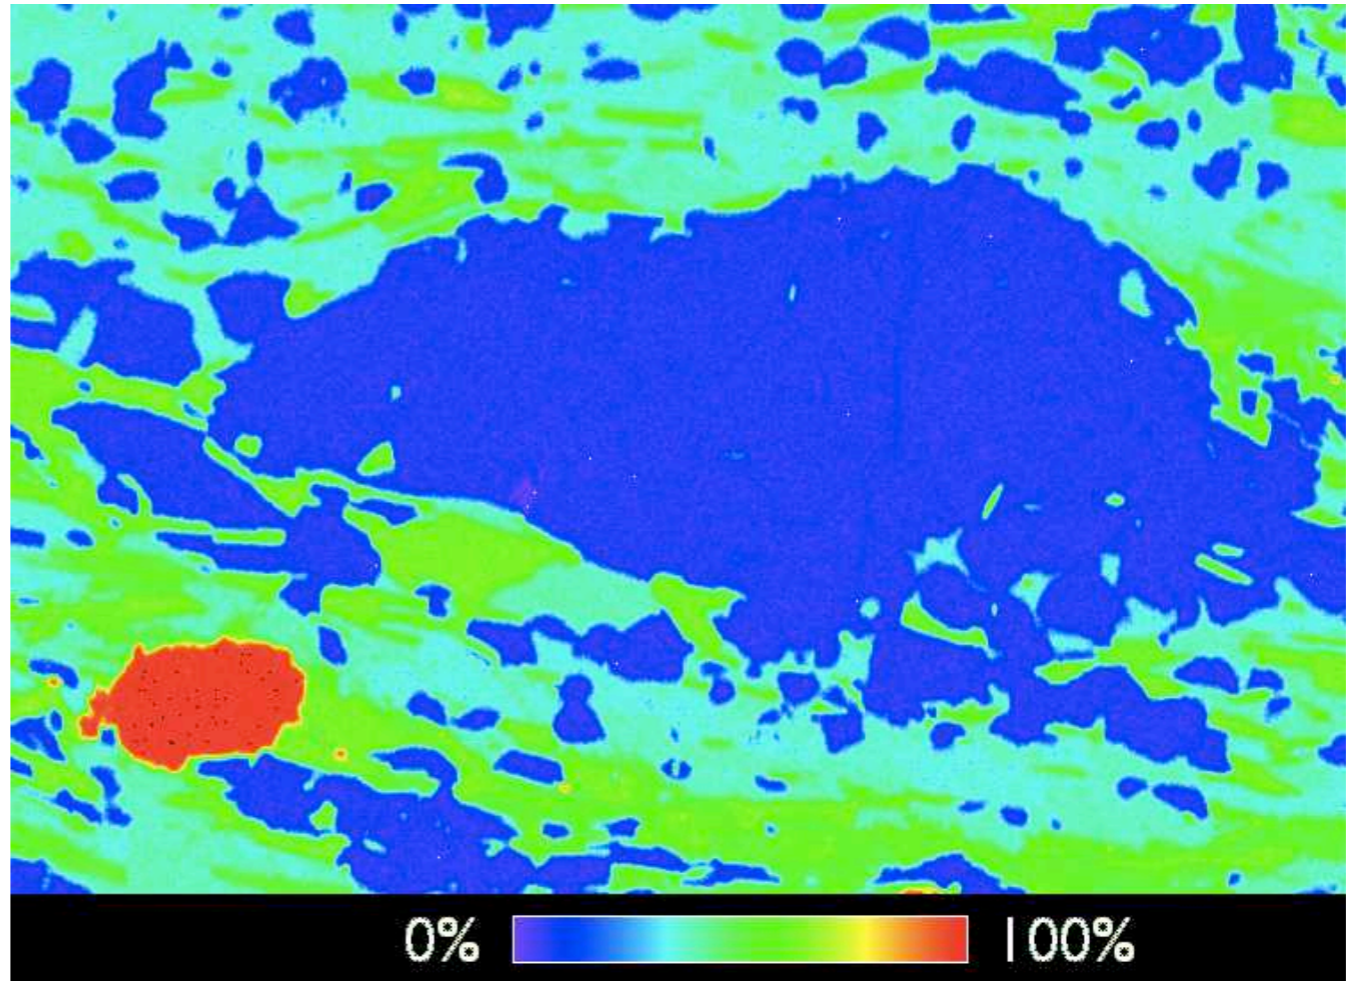

Figure 3.22
- (5) label (use sans-serif font, e.g., Gill Sans)
- (6) copy (⌘C) and paste (⌘V) into image (top); same with color LUT and calibration added (as in Figure 3.22) (bottom).